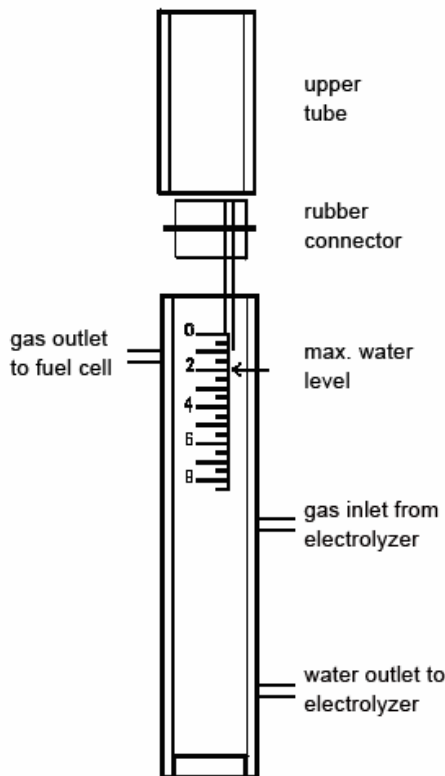

Fig. 1 Water tank tube assembling
1. Insert the rubber connector (with the small diameter tube) inside the large tube as shown in figure 1. Then place the upper shorter tube on the top of the rubber connector (Fig. 1)
1. Fill the electrolyzer water tank tube with distilled water (conductivity less than $2\mu\text{S}/\text{cm}$) to the height level 2 as shown in figure 1. Avoid overloading the tube.